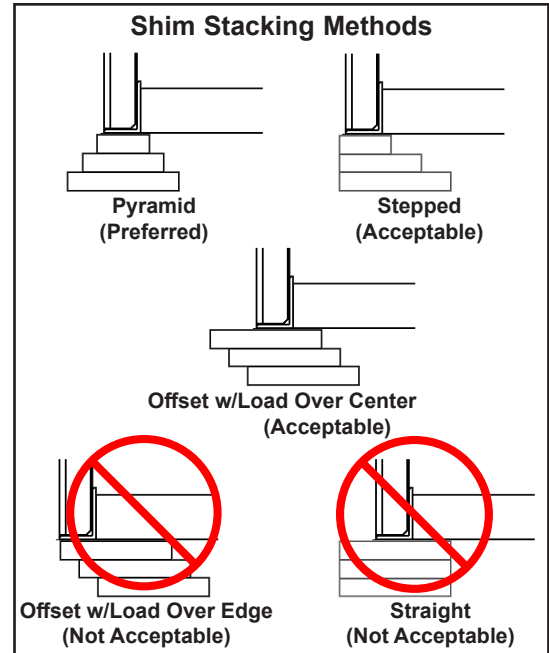

Figure 13
18. Install shims at locations (**B**) using an appropriate shimming method (see Figure 13). Both hoist cylinder trunnions must be solidly shimmed the entire length of the trunnion. Make sure the trunnions are level from side-to-side as well as from front-to-back.